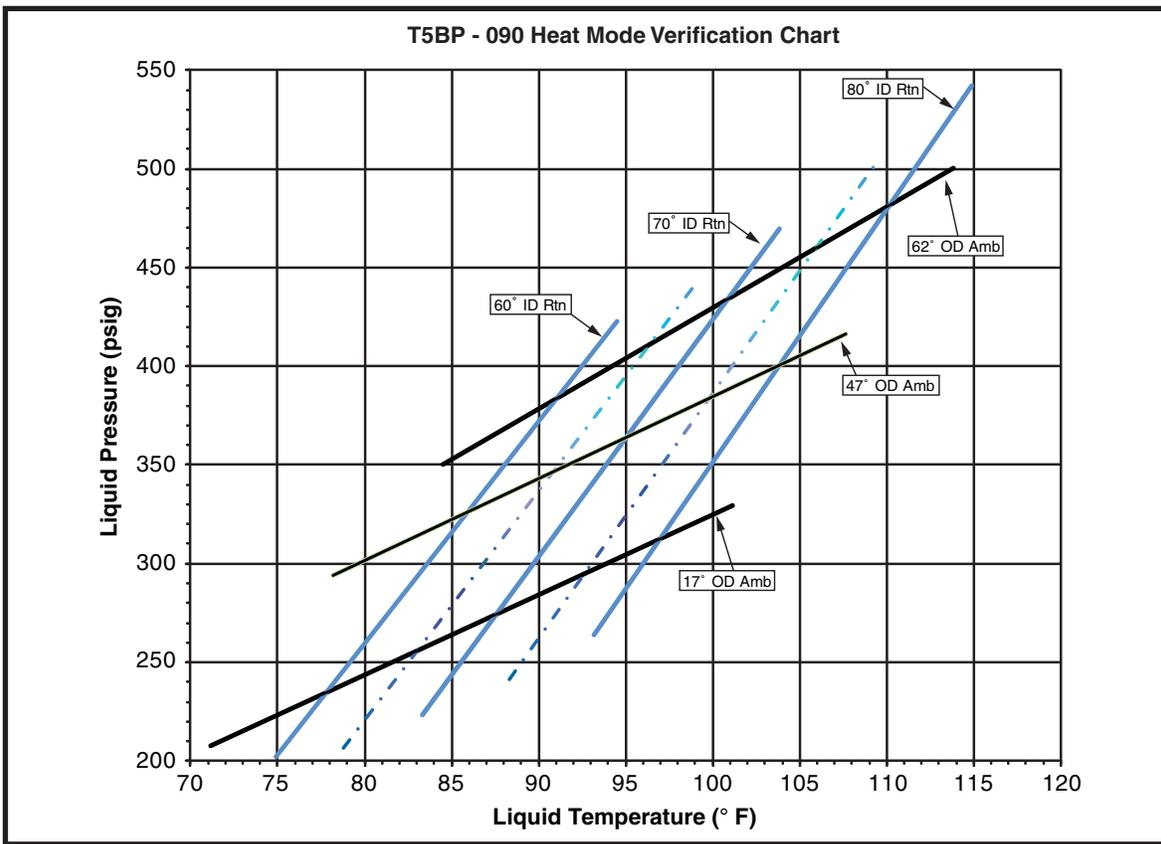

Figure 10. Verification Chart for 7 1/2 ton units
- Before using the heat mode verification charts (Figures 10 or 11, page 21), determine the outdoor ambient temperature and the return air temperature to the unit. Locate the appropriate location on the units verification chart based on those measurements to determine the ideal liquid line pressure and temperature. Verify the outdoor fan and compressor are running and the outdoor coil is free from frost accumulation. Also verify the system is not operating in defrost mode before inspecting the system. **NOTE:** If the unit is equipped with an economizer, determine the mixed air temperature entering the filters.